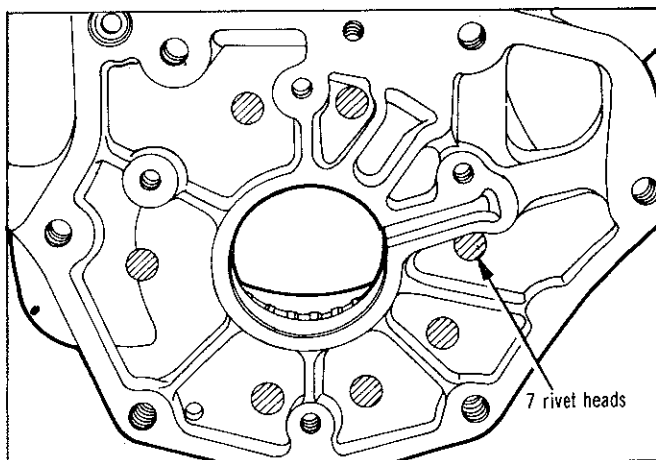
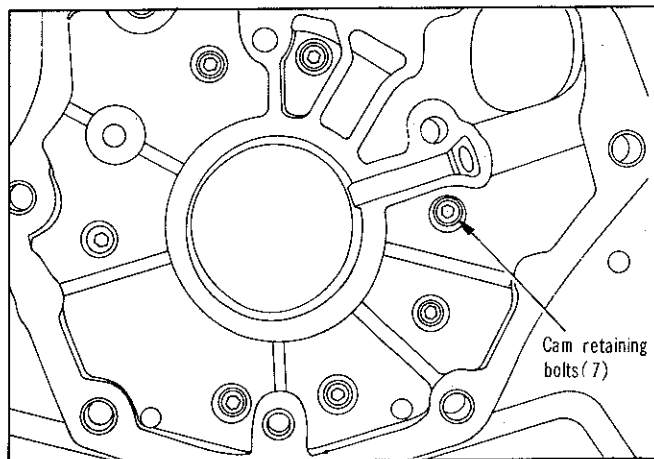
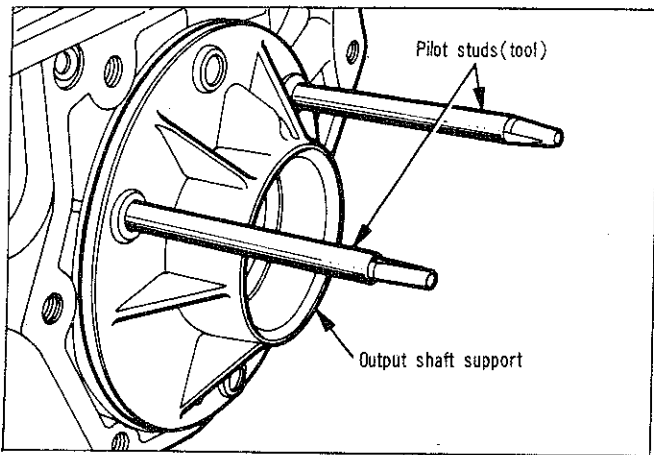

Fig. 58—Centre punch rivet heads
Fig. 59—Cam retaining bolts installed
Fig. 60—Installing output shaft support
(1) Remove four bolts securing output shaft support to rear of transmission case. Drive support rearward out of the case with a wood block and hammer.
(2) Centre punch the rivets **exactly** in centre of each rivet head (Fig. 58).
(3) Drill through each rivet head with a 9.60 mm (3/8") drill. **Be careful not to drill into the transmission case.** Chip off rivet heads with a small chisel, then drive rivets and cam from the case with a blunt punch of proper size.
(4) Carefully enlarge rivet holes in the case with a 6.70 mm (17/64") drill. Remove all chips and foreign matter from the case, make sure cam area is free of chips and burrs.
(5) To install, position cam and roller spring retainer in the case. Align cam bolt holes with holes in the case, then thread all seven retaining bolt and washer assemblies into cam a few turns. The cone washers must be installed so inner diameter is coned toward the bolt head (Fig. 59).
(6) Tap cam firmly into the case if necessary. Draw retaining bolts down evenly, then tighten to specification.
(7) Screw two pilot studs, Tool E21C35C, into the case (Fig. 60). Position support over the pilot studs, and tap it firmly into the case with a soft faced hammer.